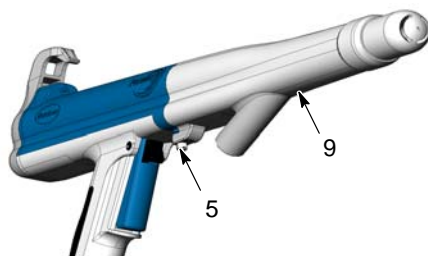

Figure 21 Loosening the Adapter Set Screw
- See Figure 21. Loosen the set screw (5) in the bottom on the adapter.